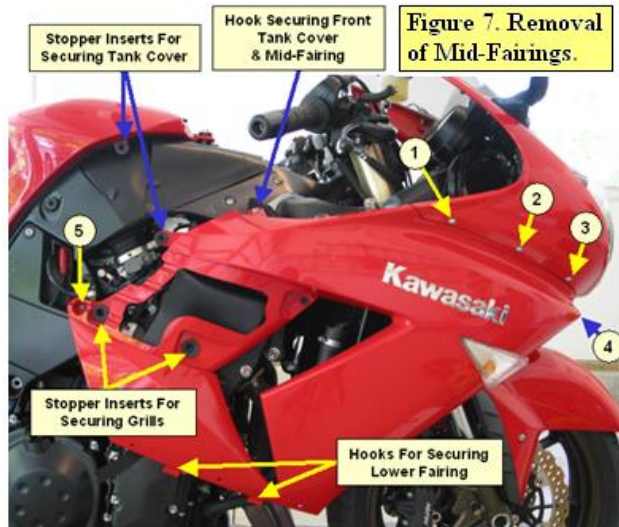

Figure 8. Remove Muffler Bodies
- The quick rivet is located in the front of the fairing (3) and holds the left and right panels together. Remove the quick rivet. This will release the right panel from the left panel.
- Note that the top of the fairing incorporates slots into which hooks at the bottom of the mid fairing (red bodywork) fit (Fig 8). Pull the bottom of the lower fairing panel away from the bike and then downward to clear the hooks from the slots. The right side lower fairing should now separate easily from the mid-fairing.
- The fairing grill is now held in place by three stoppers inserted into the mid-fairing (Fig 8). Pull the fairing grill away from the mid-fairing to release and remove.
**STEP 6: REMOVE THE TANK COVER:** The tank cover is held in place by three fasteners (Fig 6). Note that fasteners 1 and 2 were removed in Step 5. Remove fastener 3. The tank is now held in place by stoppers and hooks located on the right and left side (Fig 8). Pull the tank cover evenly in an outward direction on both sides to clear the stoppers and hooks. Then lift the tank cover to remove it from the bike frame.
- Remove the bolt at location 2 (Right side only) (Fig 8).